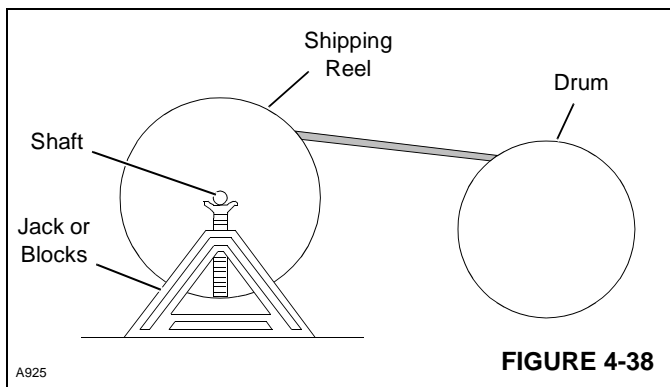

FIGURE 4-38
1. Mount wire rope shipping reel on a shaft supported at both ends by jacks or blocks as shown in Figure 4-38.